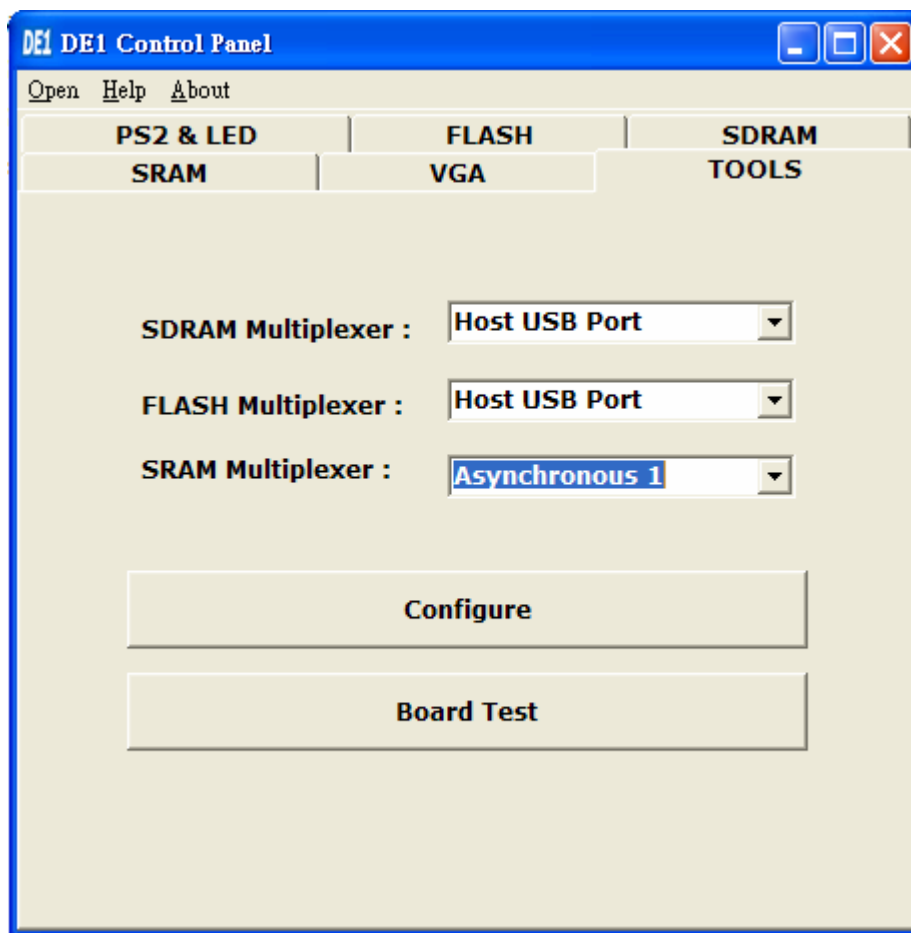

Figure 3.10. Use the Asynchronous Port 1 to access the image data in the SRAM.
- Select the **TOOLS** page and choose **Asynchronous 1** for the **SRAM multiplexer** port as shown in Figure 3.10. Click on the **Configure** button to activate the multi-port setup.